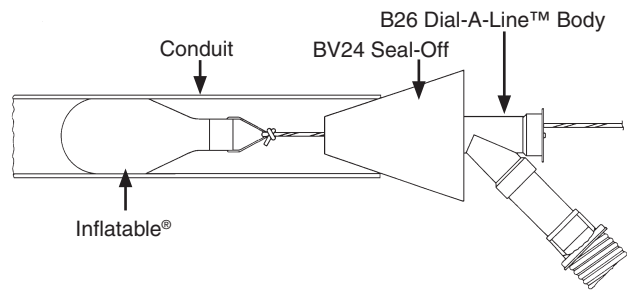

Figure 25. Blowing line in conduit with the Inflatables®
3. Connect the hose to the Dial-A-Line™ body and thread the pull line through the feed port. See Figures 25, 26 and 27.